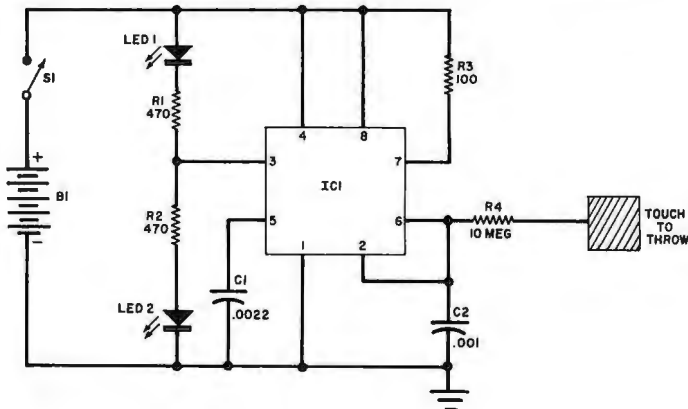

Fig. 7. Electronic coin flipper is operated by touching metallic plate.
**Reader's Circuits.** Indicating that he would welcome pen pals, one of our overseas readers, Ulf Nordquist (Fregas Väg 34, 240 21 Löddeköpinge, Sweden), contributed the circuits shown in Figs. 7 and 8. Ulf has specified standard American devices in his designs, implying that these must be readily available in Europe. In Fig. 7, a 555 timer (IC1) is used as the basis for an electronic "coin flipper" featuring red (LED1) and green (LED2) visual readouts.